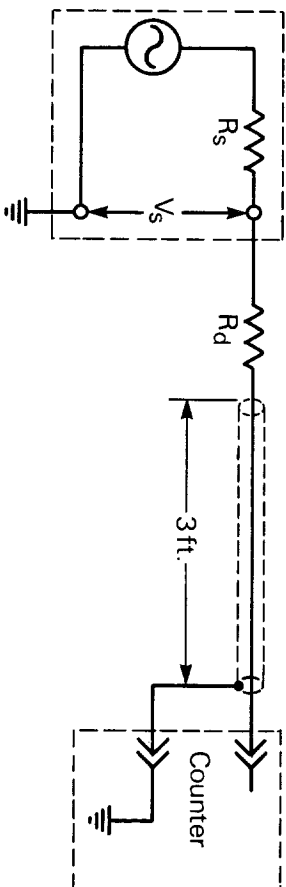
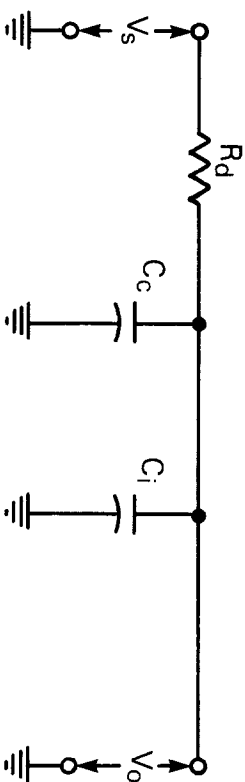

Fig. 15. Use of damping resistor when performing frequency measurements.
Fig. 16. Equivalent circuit.
**A. DAMPING RESISTOR CALCULATION (Refer to Fig. 15 and 16)**
Fig. 15 illustrates the use of a damping resistor when performing frequency measurements. As shown in Fig. 16, the cable capacitance,  $C_c$ , and the counter input capacitance,  $C_i$  form a voltage divider when a damping resistor,  $R_d$ , is added in series. In order for the damping resistor to have the optimum damping effect on ringing and overshoot, the value of  $R_d$  must be calculated. In order to calculate the value of  $R_d$ , the signal amplitude and frequency must be known. However, the frequency is usually unknown before the frequency measurement. Therefore, only the approximate value of  $R_d$  can be determined by estimating the source frequency. To maintain a minimum voltage of 30 mV RMS at the counter input ( $V_o$ ), calculate the value of  $R_d$  using the following formula: